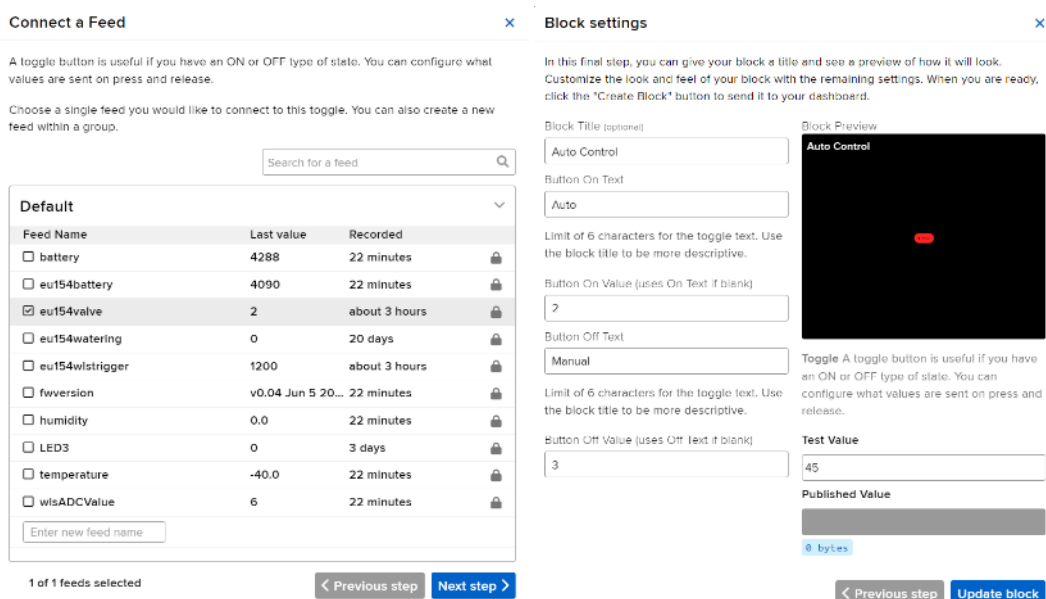

Figure 14. Create and configure widget to set manual or auto valve control
2. Create a widget to set auto or manual valve control. It uses the same eu154valve feed, just value "2" must be set for "auto control" and value "3" for "manual" as it is shown in Figure 14; otherwise the solution kits' FW will not recognize those commands appropriately.